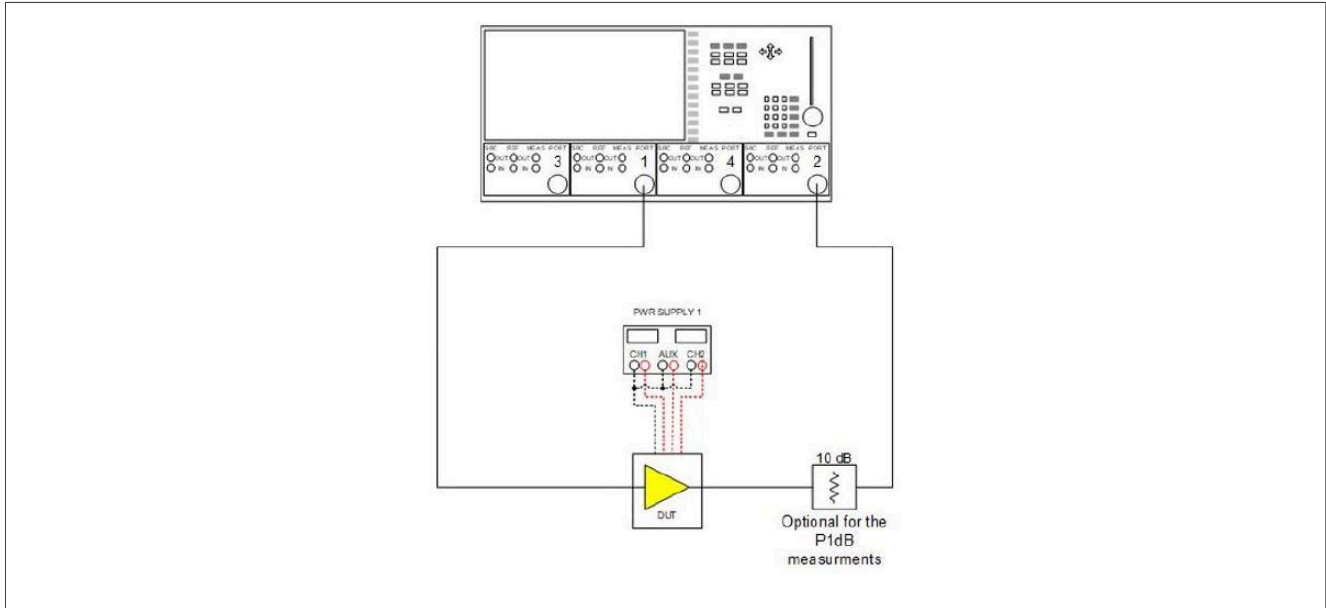

Figure 21. S-parameter and P_{1dB} gain compression setup
The measured S-parameters and Rollett stability factor K, are given in the graphs below. For the measurements, a typical BTS6303U EVB is used. All the S-parameter measurements have been carried out using the setup Figure 21.
The P_o and Gain are measured versus P_i using the setup shown in Figure 21.
1. Connect the EVB to a calibrated network analyzer see Figure 21, we advise the following settings for S-parameter measurements: